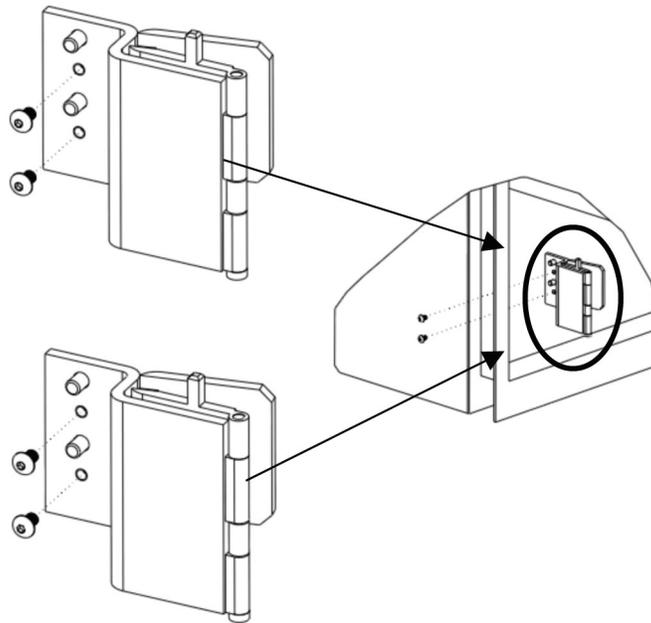

Figure 3-4. Installing the HTD hinges on the IT enclosure rear frame.
5. If a Transition Frame is not required, install the HTD hinges on the IT enclosure rear frame using the 4-mm hex key as shown in Figure 3-4.